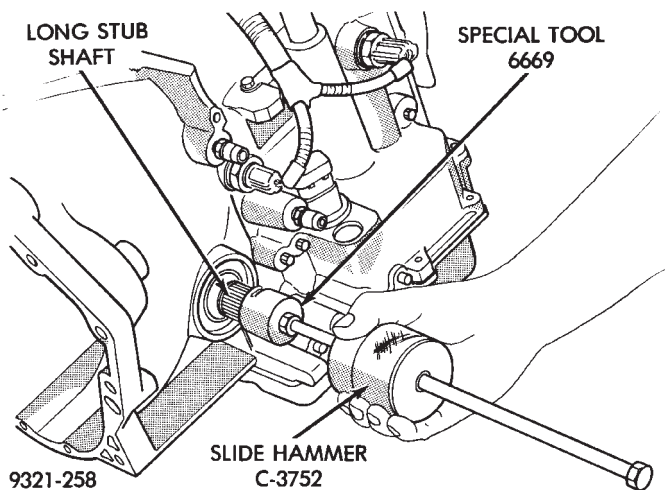

Fig. 57 Long Stub Shaft Removal
- (1) Remove transaxle from vehicle. Refer to Transaxle Removal and Installation procedure in this section.
- (2) Remove valve body from transaxle.
- (3) Remove solenoid connector from transaxle case.
- (4) Remove long stub shaft from transaxle (Fig. 57).